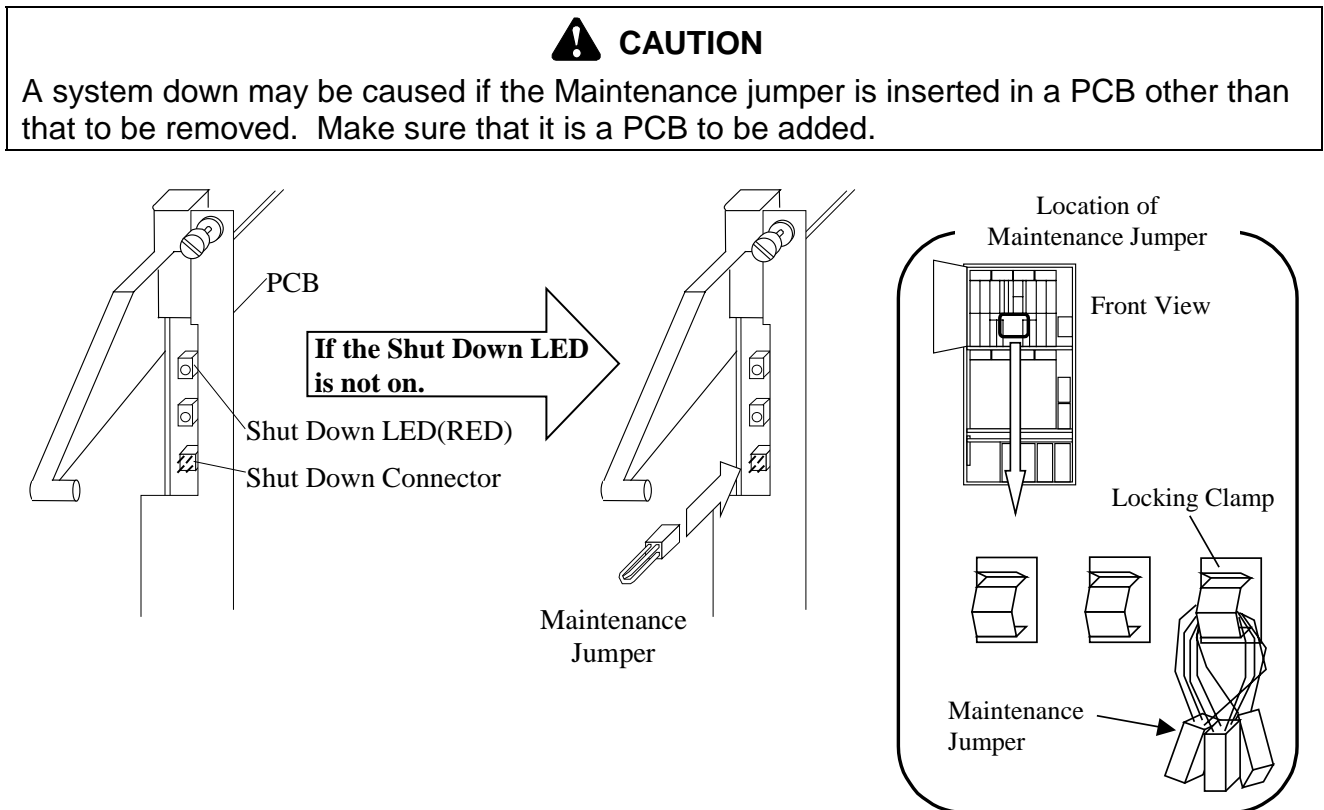

Fig. 3.7.2-4 Location of the Shut Down LED
- a. While referring to Fig. 3.7.2-4 and Table 3.7.2-5, check the Shut Down LED on the Cache Memory PCB. Connect the Maintenance Jumper to the Shut Down Connector if the Shut Down LED is not on. (This procedure [6-1. a.] is not valid for a New Installation.)